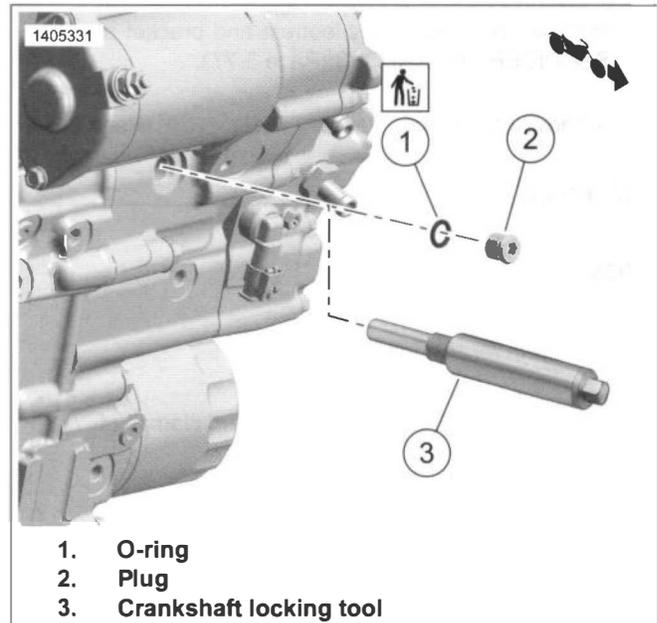

Figure 4-17. Crankshaft Locking Tool
2. See Figure 4-17. Remove crankcase plug (2) to access crankshaft locking feature.
- a. Remove and discard O-ring (1).